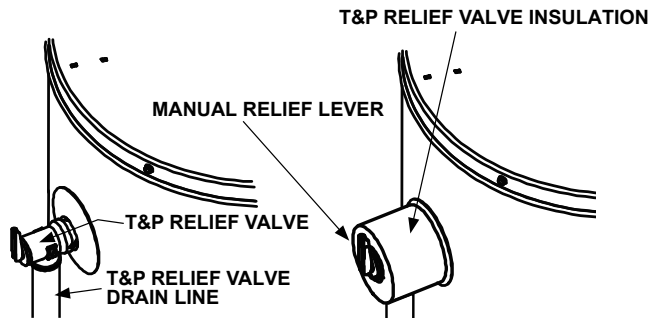

FIGURE 9.
1. Locate the temperature and pressure relief valve on the water heater (also known as a T&P relief valve). See Figure 9.
3. Spread the slit open and fit the insulation over the T&P relief valve. See Figure 9. Apply gentle pressure to the insulation
to ensure that it is fully seated on the T&P Relief Valve. Once seated, secure the insulation with duct tape, electrical tape, or equivalent. **IMPORTANT:** The insulation and tape must not block the discharge opening or hinder access to the manual relief lever (Figure 9). Ensure a discharge pipe is installed into the T&P valve discharge opening per the instructions in this manual.